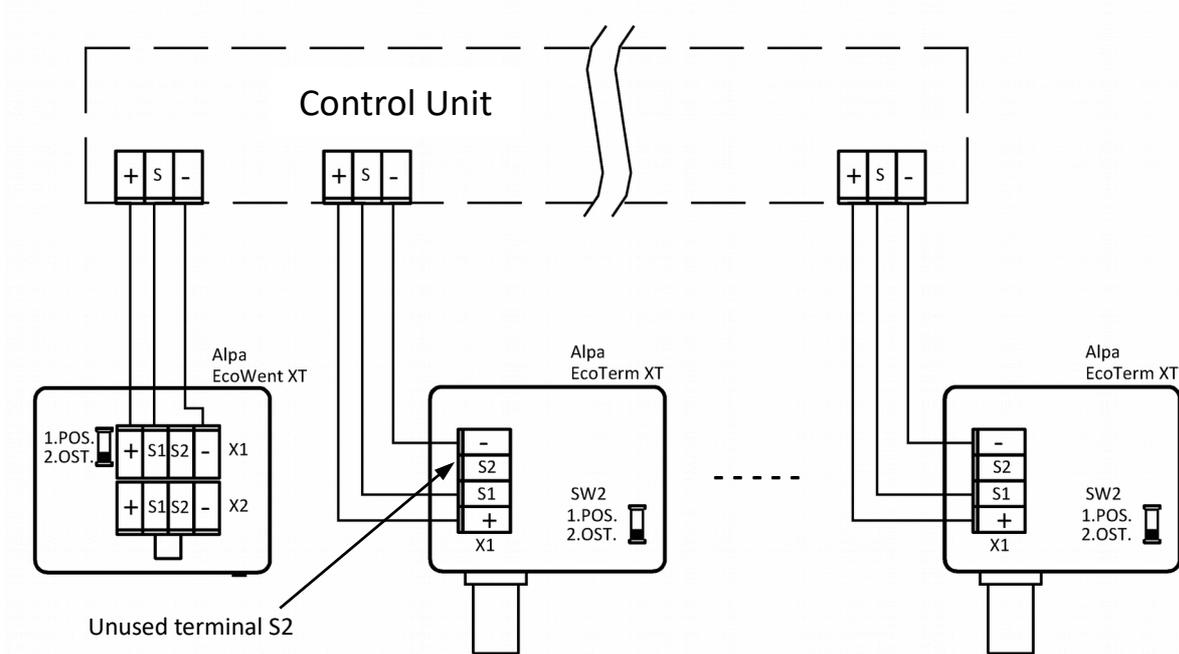

Figure 8: Connection into the star system
- /* Connect the output of the first detector to the cable going into the control unit. The configuration switch in the detector should be in position 2 (last detector) – see Figure 8.